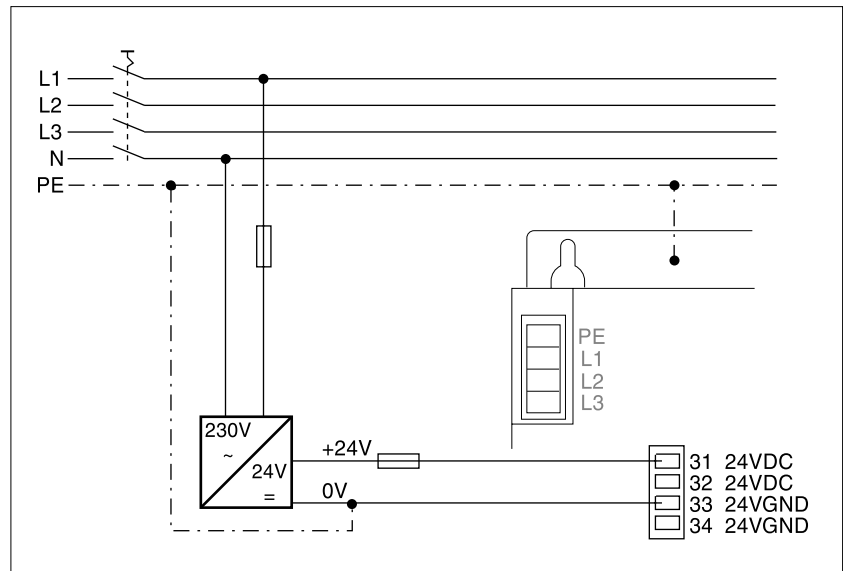

Fig. 4.15 Example of 24 V connection for single-phase and three-phase controllers
- ▶ Connect a 24Vdc power supply to the controller as shown in Fig. 4.15. The power supply must be compatible with PELV operation (negative output terminal bonded to the enclosure ground bar). Use a Square D ABL7RE24xx power supply or equivalent.